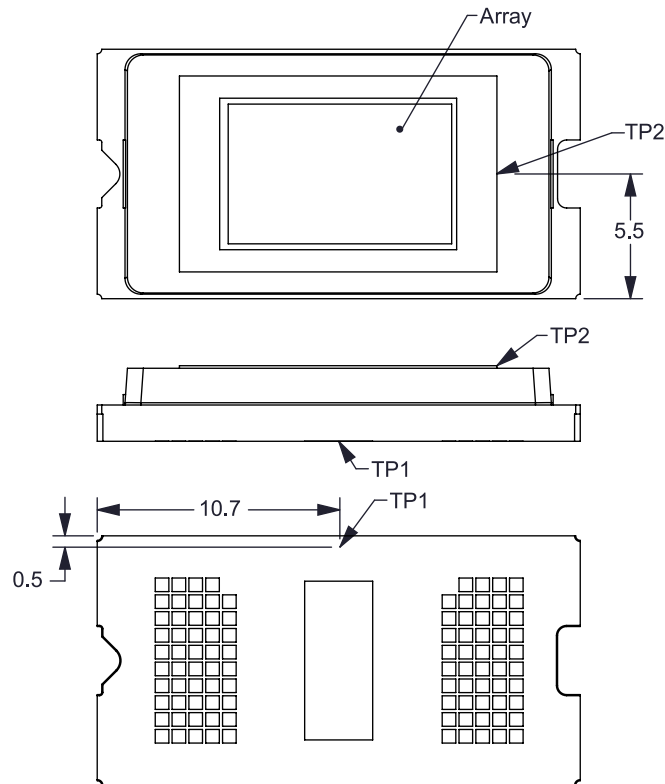

Figure 8. DMD Thermal Test Points
- T_{CERAMIC} = Measured ceramic temperature (°C), TP1 location in Figure 8
- Q_{ARRAY} = Total DMD power; electrical, specified in Electrical Characteristics, plus absorbed (calculated) (W)
- $Q_{\text{ELECTRICAL}}$ = Nominal DMD electrical power dissipation (W)